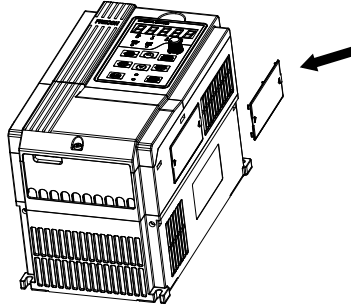

Fig.3-8 Dust cover installation and removal
- Install dust cover: The dust cover shown in Fig3-8 parallel to the housing assembly (No cock around is installed) .